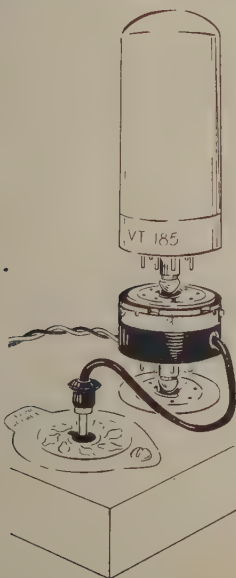

Figure 14.3. Adapter M-399, Pictorial View
(1) Take receiver-transmitter from its case by removing all the screws around the edge of the panel and pulling the chassis forward.
(2) Use a $\frac{5}{16}$ " wrench (part of Maintenance Equipment ME-13-(&) or Maintenance Equipment ME-73), to disconnect the two leads attached to the panel meter of the set, and then connect these leads to terminals B and R of Adapter M-399, attaching the red lead to R.
(3) Take the two separate leads of Adapter M-399, and connect them to the meter terminals, attaching the red lead to the meter terminal nearest Transformer T₅.
(4) Remove the two screws from the edge of the top cover of Battery Box BX-4 that contains Battery BA-41, and mount the bracket of Adapter M-399 there, using the original screws.
(5) Remove the receiver power-amplifier Tube VT-185 from its socket and insert the adapter plug. Then insert the Tube VT-185 in the adapter plug socket, as shown (Fig. 14.3).